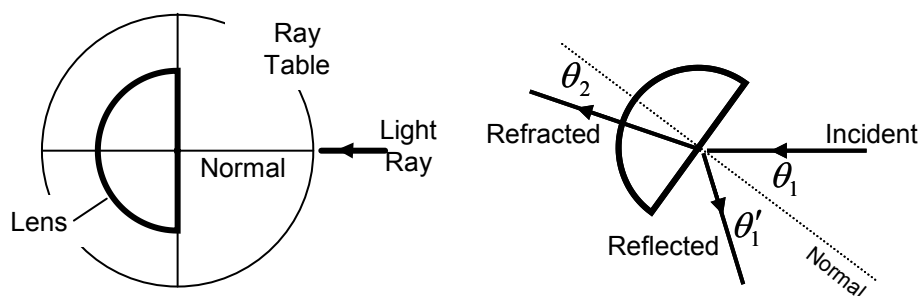

Figure 3: Apparatus alignment
- Attach the optical table to the optics bench and place the semicircular plastic lens on the optical table. The center of the flat face of the lens should be aligned with the line on the table labeled “component”, and the normal line should intersect the center of the flat face as shown in Figure 3.
- Attach the light source to the optics bench and orient the light source so that a single ray of white light leaves the source and shines along the normal line on the optical table. The system should be aligned so that this incident ray (A) strikes the center of the flat face of the semicircular lens. The angle of incidence (θ_1) can then be varied by rotating the optical table. Note that the refracted ray (C) should not change direction as it exits the circular face of the lens.